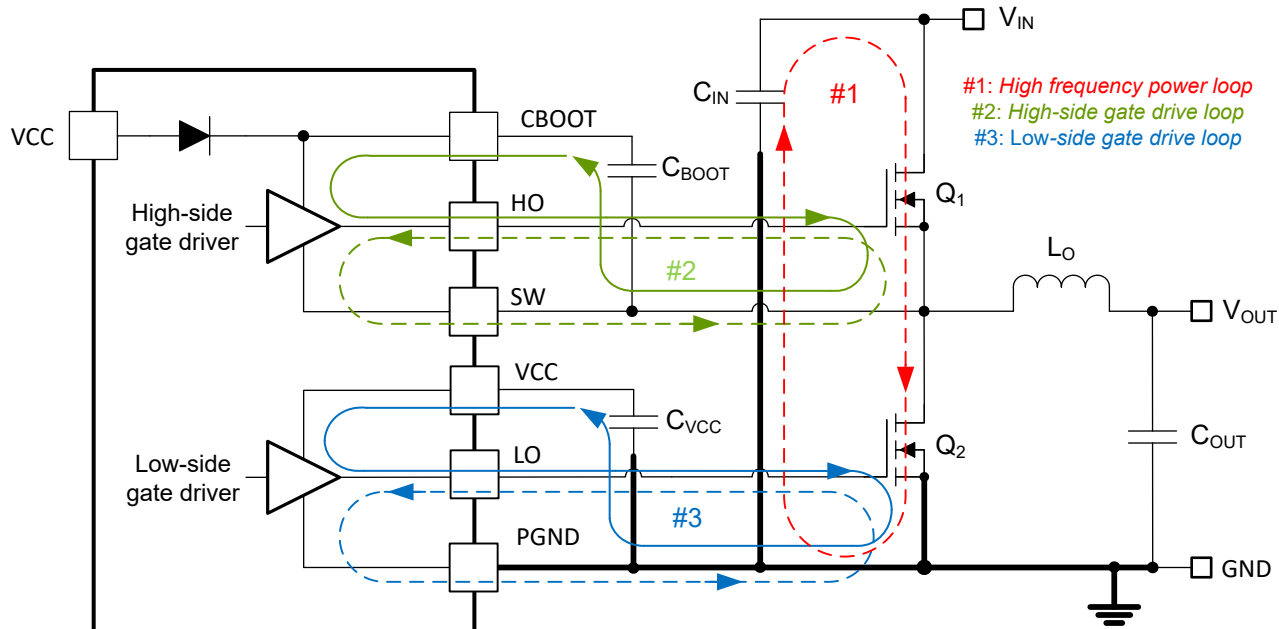

FIG 9-47. DC/DC Regulator Ground System With Power Stage and Gate Drive Circuit Switching Loops
Proper PCB design and layout is important in a high-current, fast-switching circuit (with high current and voltage slew rates) to achieve a robust and reliable design. As expected, certain issues must be considered before designing a PCB layout using the LM5149-Q1. The high-frequency power loop of a buck regulator power stage is denoted by loop 1 in the shaded area of Figure 9-47. The topological architecture of a buck regulator means that particularly high di/dt current flows in the components of loop 1, and it becomes mandatory to reduce the parasitic inductance of this loop by minimizing its effective loop area. Also important are the gate drive loops of the high-side and low-side MOSFETs, denoted by 2 and 3, respectively, in Figure 9-47.
- Loop 1: The most important loop area to minimize is the path from the input capacitor or capacitors through the high- and low-side MOSFETs, and back to the capacitor or capacitors through the ground connection. Connect the input capacitor or capacitors negative terminal close to the source of the low-side MOSFET (at ground). Similarly, connect the input capacitor or capacitors positive terminal close to the drain of the high-side MOSFET (at VIN). Refer to loop 1 of FIG 9-47.
5. The SW pin connects to the switch node of the power conversion stage and acts as the return path for the high-side gate driver. The parasitic inductance inherent to loop 1 in FIG 9-47 and the output capacitance (C_{OSS}) of both power MOSFETs form a resonant circuit that induces high frequency (greater than 50 MHz) ringing at the SW node. The voltage peak of this ringing, if not controlled, can be significantly higher than the input voltage. Make sure that the peak ringing amplitude does not exceed the absolute maximum rating limit for the SW pin. In many cases, a series resistor and capacitor snubber network connected from the SW node to GND damps the ringing and decreases the peak amplitude. Provide provisions for snubber network components in the PCB layout. If testing reveals that the ringing amplitude at the SW pin is excessive, then include snubber components as needed.
- Loop 2: high-side MOSFET, Q_1 . During the high-side MOSFET turn-on, high current flows from the bootstrap (boot) capacitor through the gate driver and high-side MOSFET, and back to the negative terminal of the boot capacitor through the SW connection. Conversely, to turn off the high-side MOSFET, high current flows from the gate of the high-side MOSFET through the gate driver and SW, and back to the source of the high-side MOSFET through the SW trace. Refer to loop 2 of Figure 9-47.
- Loop 3: low-side MOSFET, Q_2 . During the low-side MOSFET turn-on, high current flows from the VCC decoupling capacitor through the gate driver and low-side MOSFET, and back to the negative terminal of the capacitor through ground. Conversely, to turn off the low-side MOSFET, high current flows from the gate of the low-side MOSFET through the gate driver and GND, and back to the source of the low-side MOSFET through ground. Refer to loop 3 of Figure 9-47.